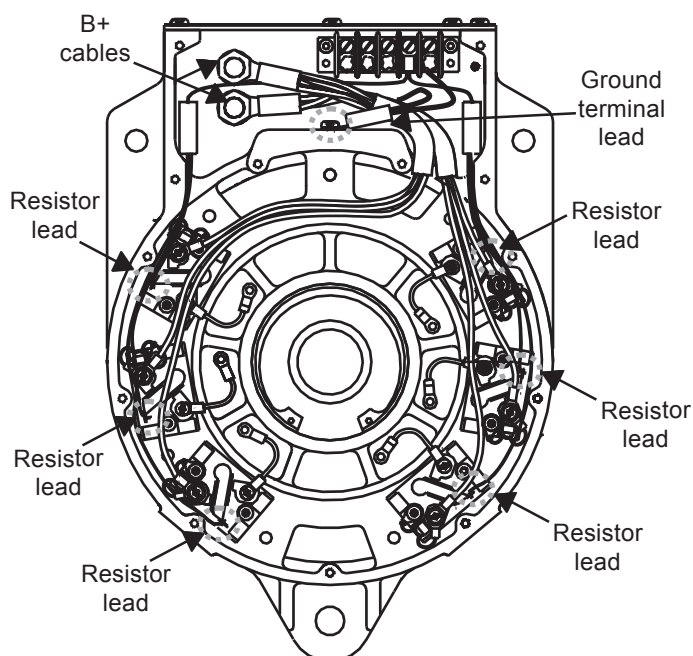

Figure 2—Drive End (DE) Housing Connections
4. Using standard solder, connect the six resistor leads to the points shown in Figure 2.